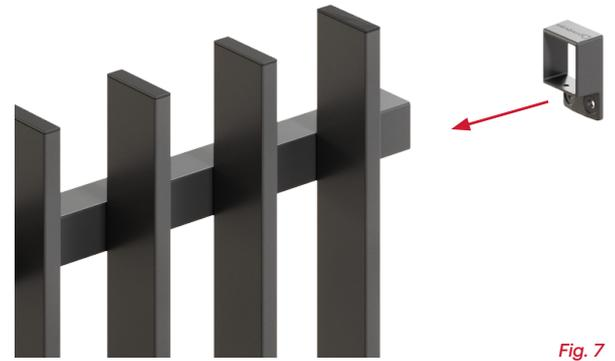

Fig. 7
1. Slide the brackets onto the rails, ensuring the tab is pointing down for the top rail. **Fig. 7**